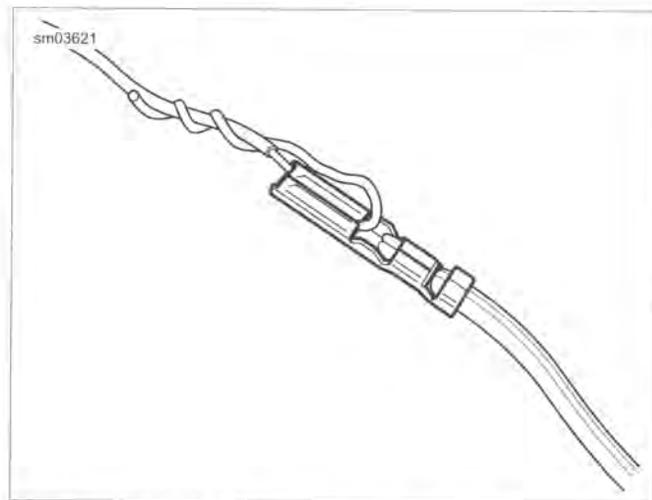

Figure 7-36. Fix Chaser Wire to Socket Terminal
- See Figure 7-36. Obtain three equal lengths of strong flexible wire for use as chaser wires. Securely attach a chaser wire to terminal of each wire.